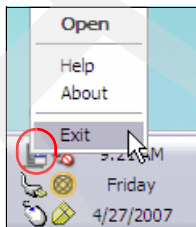

Figure A-34 Ending SPT
- Right-click the system tray icon and select **Exit**, as shown in Figure A-34.